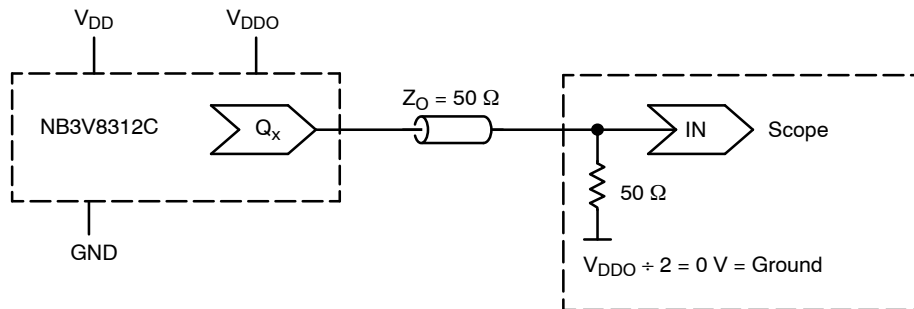

Figure 7. Typical Device Evaluation and Termination Setup – See Table 8
6. Outputs terminated $50\text{ }\Omega$ to $V_{DDO}/2$ unless otherwise specified. See Figure 7.
7. Outputs loaded with $50\ \Omega$ to $V_{DDO}/2$; see Figure 7. CLOCK input with 50% duty cycle; minimum input amplitude = 1.2 V at $V_{DD} = 3.3\text{ V}$, 1.0 V at $V_{DD} = 2.5\text{ V}$, $V_{DD}/2$ at $V_{DD} = 1.8\text{ V}$.
7. Outputs loaded with $50\ \Omega$ to $V_{DDO}/2$; see Figure 7. CLOCK input with 50% duty cycle; minimum input amplitude = 1.2 V at $V_{DD} = 3.3$ V, 1.0 V at $V_{DD} = 2.5$ V, $V_{DD}/2$ at $V_{DD} = 1.8$ V.